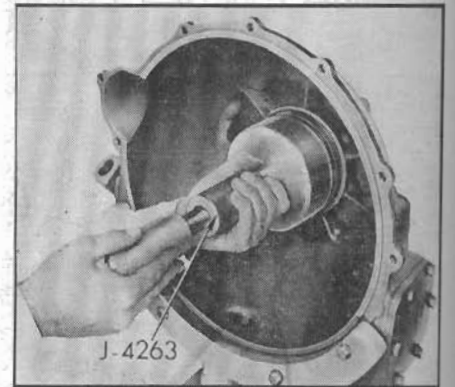

Fig. 11 Removing front oil pump
15. Install front pump driver tool, Fig. 11, and remove pump from turbine housing.